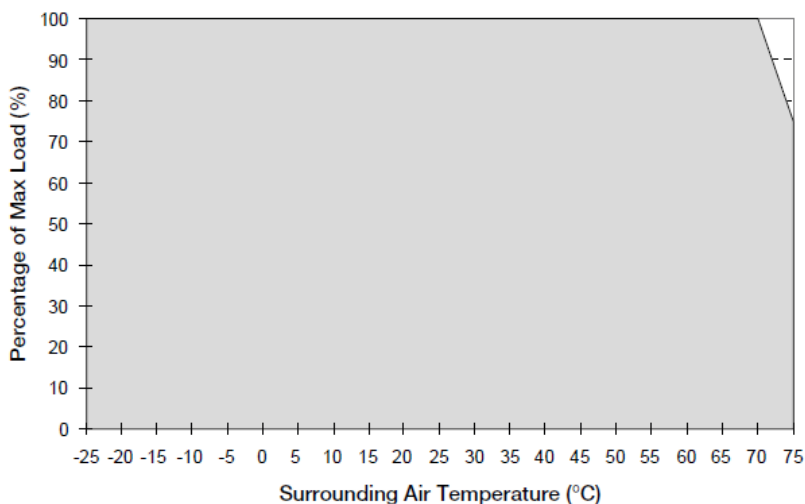

Fig. 2 De-rating for Vertical Mounting Orientation
1. Components may degrade, or be damaged, when the buffer module is continuously used outside the shaded region, refer to the graph shown in Fig. 2.